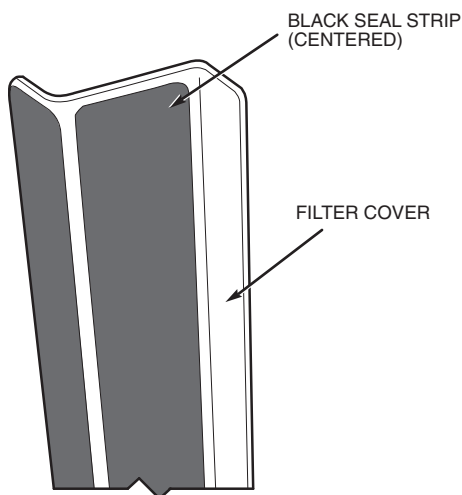

Fig. 41 — Attaching Seal Strip to Filter Cover
13. Attach black seal strip (provided) to filter cover. Seal strip should be applied centered over the holes of the one flange, making sure to fully cover holes and center over the other large flange. See Fig. 41.